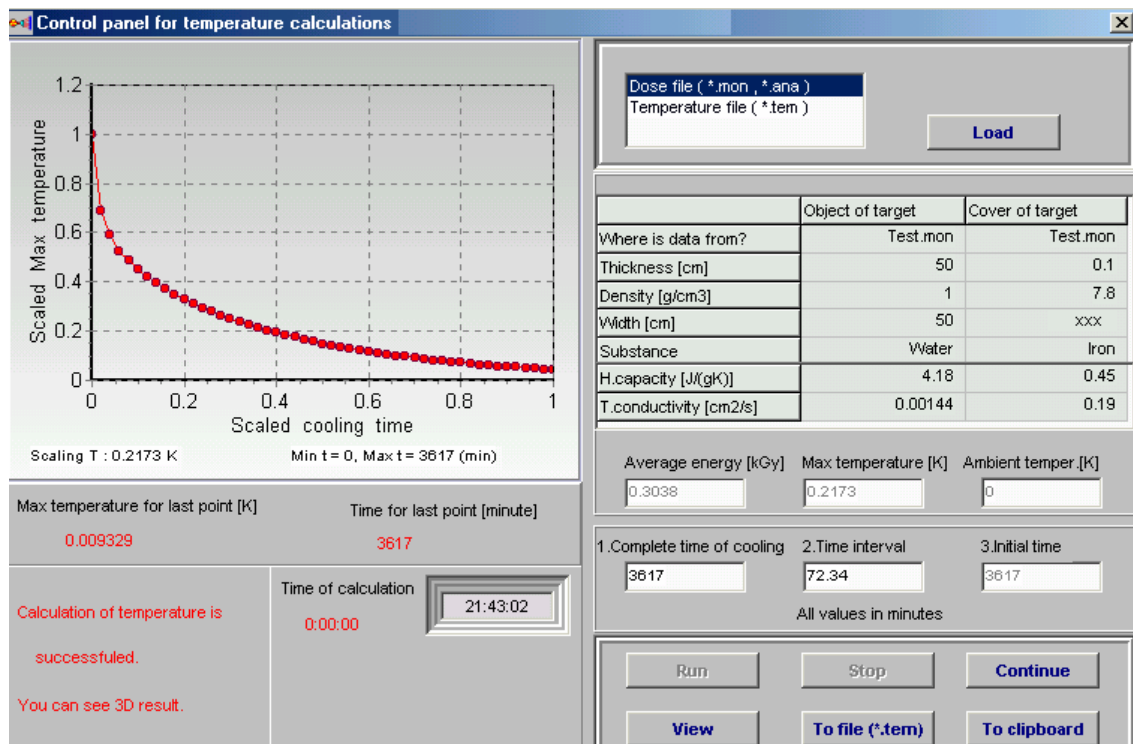

Fig.7.4. Control panel for analysis of heating and cooling of an irradiated target. End results.
- **When** calculation of a temperature has started , the red curve appears upon the plot and **Max Temperature**, **Cooling Time for last calculated point** for the every step. (See Fig.7.4).